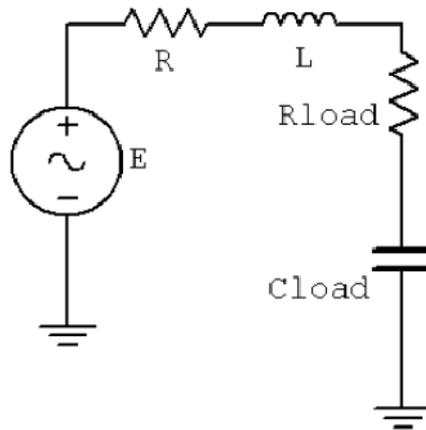

Figure 8.1
1. Build the circuit of figure 8.1 using $R=1\text{ k}\Omega$ and $L=10\text{ mH}$, but leaving off the load components. Replace the generator with a 50Ω resistor and determine the effective source impedance at 10 kHz using the impedance meter. Record this value in Table 8.1, including both magnitude and phase. Determine the load impedance which should achieve maximum power transfer according to the theorem and record in Table 8.1. Finally, determine values for R_{load} and C_{load} to achieve this load impedance and record in Table 8.1, also copying the resistance value to the first R_{load} entry of Table 8.2.